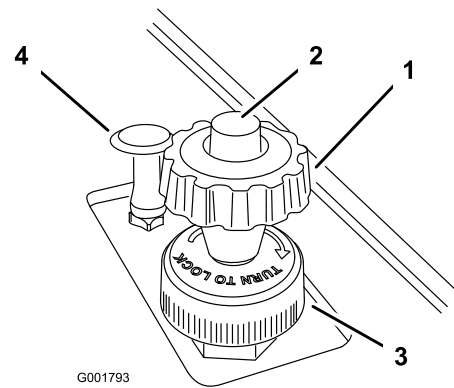

Figure 22
2. Press the button on top of the speed limiter knob and pull up on it until you feel it touch the accelerator pedal, then release the button (Figure 22).
4. Once you have it set, you can lock it at that setting by turning the locking ring at the base of the speed limiter clockwise until it stops (Figure 22). To release this lock, turn the locking ring counter clockwise until it is loose.